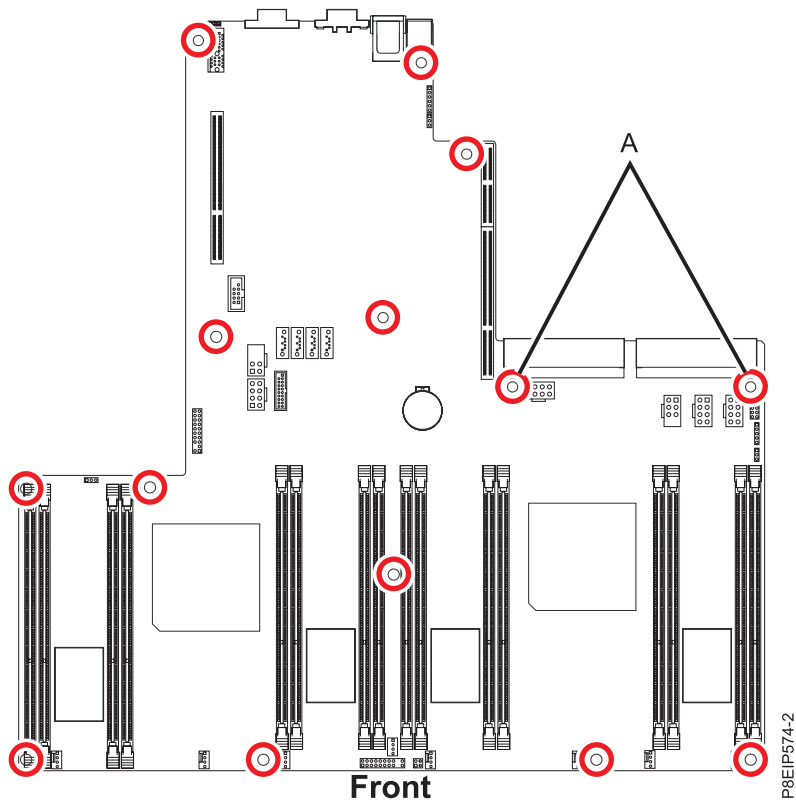

Figure 43. Screw locations. The two screws at **(A)** are black and slightly longer.
14. Align and screw the 14 screws into the system backplane. The screw locations are shown in Figure 43 on page 40.